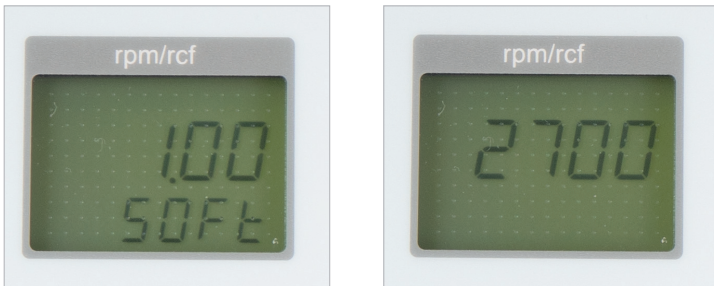

Figure 2
To access these, open the lid of the centrifuge and switch off the mains switch. Then switch the mains switch on again. The current software version and the device type are displayed for approx. 3 seconds (see Figure 2). During this time, simultaneously press the “time” (3) and “lid/stop” (9) keys. After this, a display test will be performed for approx. 3 seconds, in which all possible displays are shown simultaneously (see Figure 3).